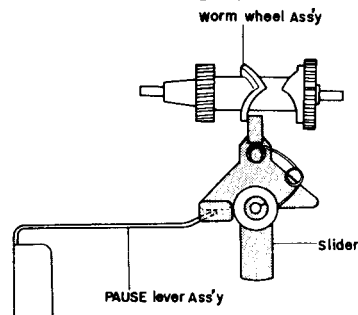

Fig. 12
- 2) If space occurs between pause spring and slider due to strong pause spring contact with the slider, bend the pause spring so that the slider becomes lightly contacted. (Refer to Fig.12).